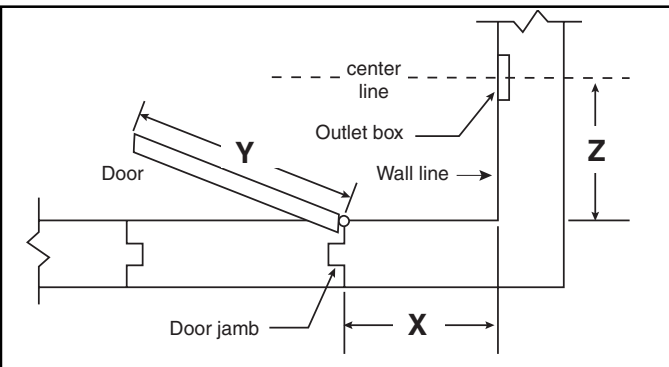

Figure 1. Locating the Door Holder
- Using Figure 1 and Table 2, locate the intersection of Dimension X and Dimension Y. Dimension Z is shown at the intersection in the gray area.